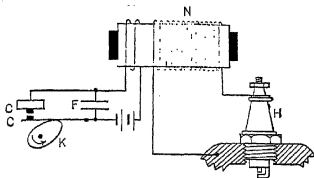

FIG. 158. Circuit of make-and-break gas-engine ignition system.
When the points *P* are opened, a spark will jump across them due to the high voltage induced. This spark is sometimes used to ignite illuminating gas or the gas mixture inside the cylinder of a gasoline engine. For the latter purpose, however, another type of coil shown in Fig. 158
85. Gas-engine Ignition. The circuit of a make-and-break system of gas-engine ignition for a one-cylinder engine is shown in Fig. 158. The cam *K* is so geared to the main shaft of the engine that it opens the contacts *C-C* at the instant when conditions in the cylinder are just right for ignition. During the period in which the contacts *C-C* are closed, the battery sends a current through the iron-cored coil *M* (called the primary coil) setting up a flux in the iron core. When this flux changes it induces a voltage both in itself and in the other coil *N* (called the secondary coil) wound on the same core. Now coil *N* is composed of many turns of fine wire and has induced in it many times the voltage induced in *M*. When the circuit through *M* is broken, this high voltage induced in *N* is sufficient to send a spark across the gap between the points of the spark plug *H*. The condenser *F* steals the current away from contacts *C-C* when they open, thus preventing burning them.
For automobile ignition, the arrangement of Fig. 158 is modified by providing a vibrator to open and close the points *C-C* in rapid succession thus giving a series of sparks rather than a single one. This is accomplished by placing the vibrating points at the end of the induction coil thus using